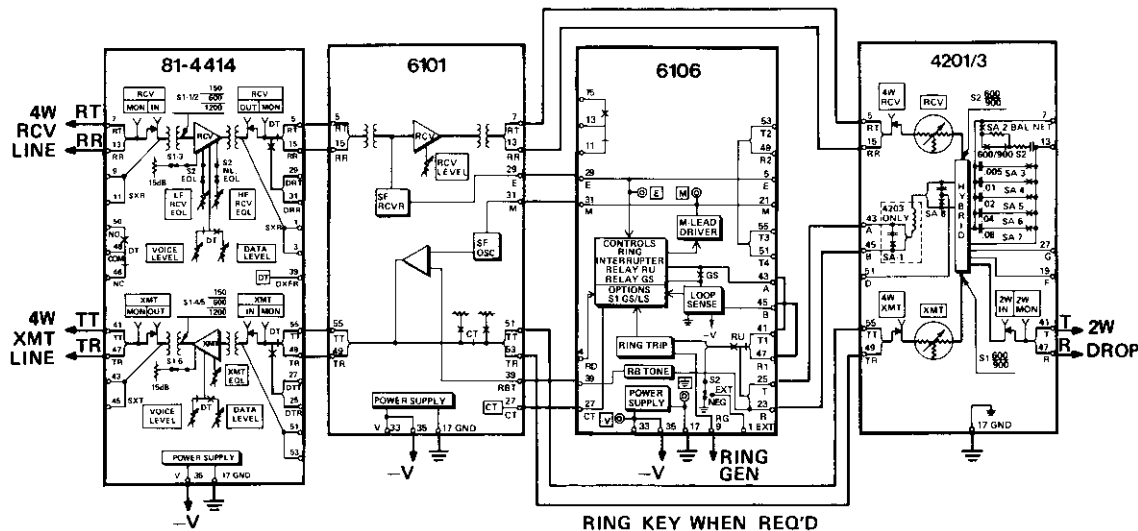

figure 4. Wiring diagram showing necessary connections when 6106 is used in a typical sf signaling application
3.05 One of the most common applications of the 6106 involves its use in an sf signaling and terminating system with a 4001 Line Amp at the facility interface and a 420X Term Set interfacing the station. Figure 4 shows the connections required in this application. Note that, if the 6106 is provided in combination with these modules in a Type 261 Signaling and Terminating System, all